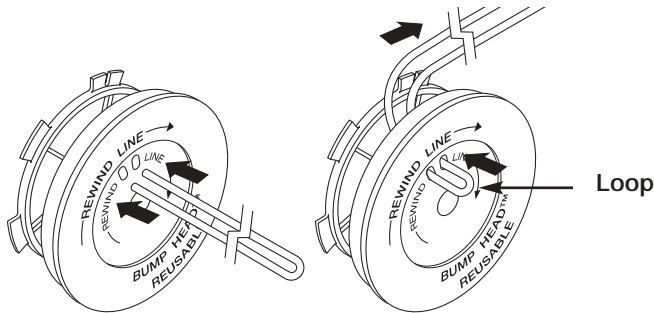

Fig. 16
- Take approximately 25 feet (7.6 m) of new trimming line, loop it into two equal lengths. Insert each end of the line through one of the two holes in the inner reel (Fig. 16). Pull the line through the inner reel so that the loop is as small as possible.